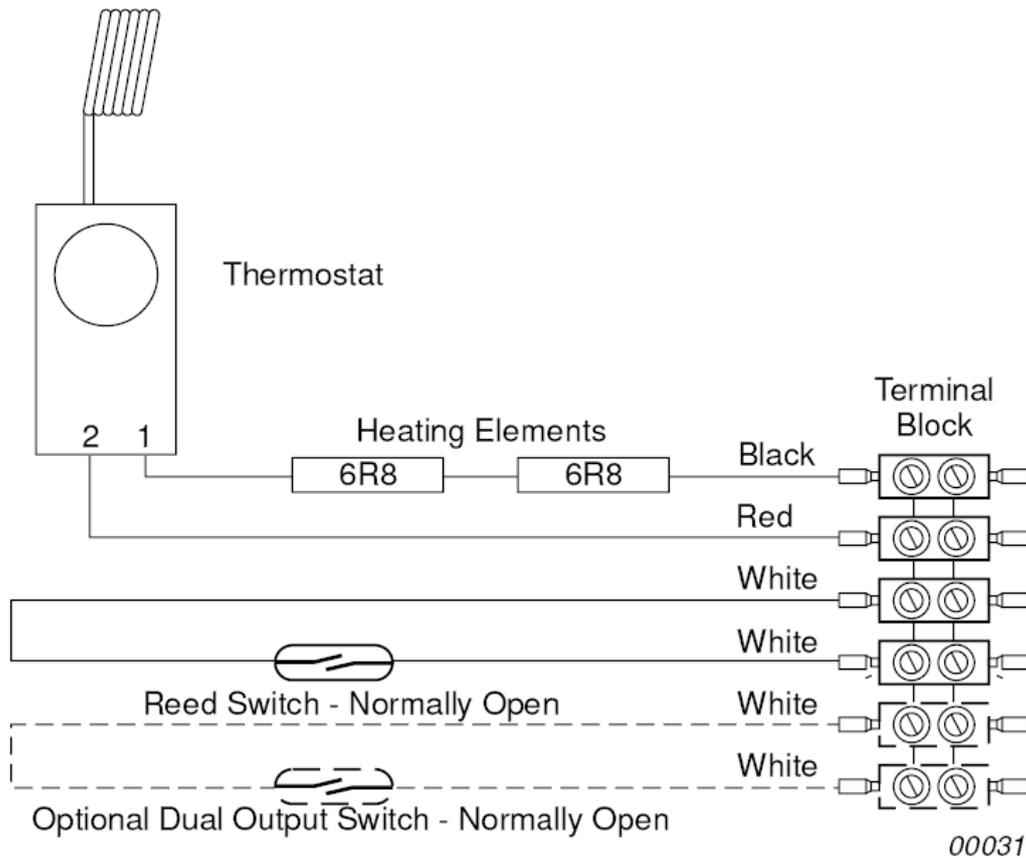

Figure 4: Reed switch and heater connections for standard versions
4. Connect the free ends of these cores to the counting device (see Figure 4 and Chapter 6).
6. Connect the free ends of these cores to the power transformer in the hut or enclosure (see Figure 4).